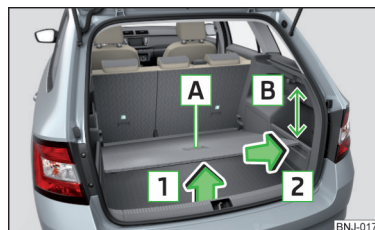

Fig. 119
- Lift the variable loading floor at the handle **A** in the direction of arrow **1** until its rear area is about 15 cm **B** below the edge of the foldable cover » Fig. 119.
- Grasp the variable loading floor at handle **A** » Fig. 119.
When removing or inserting the variable loading floor, a distance of 15 cm **B** » Fig. 119 underneath the edge of the foldable cover must be adhered to, there is a risk of damaging the boot lid seal.